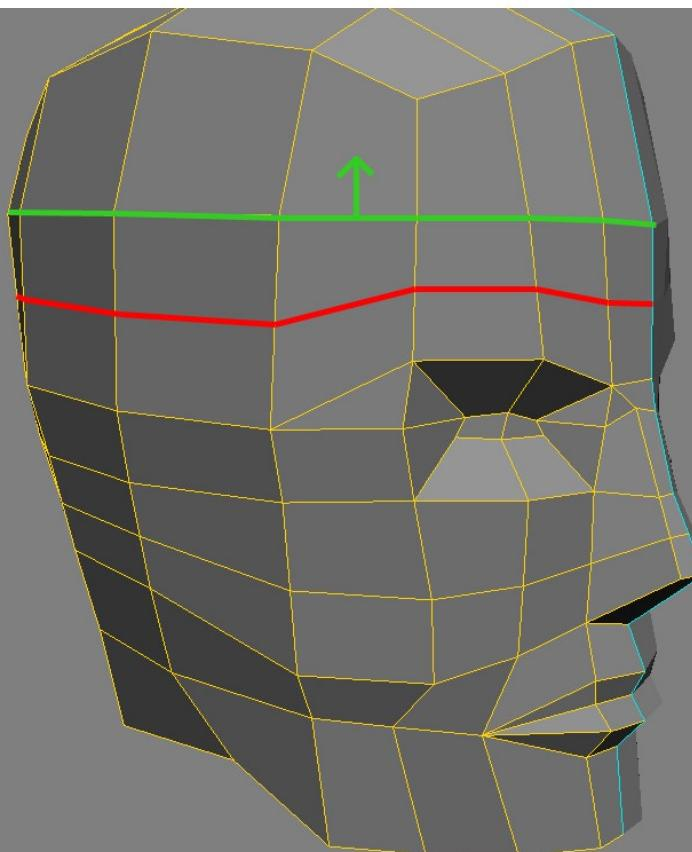

Fig 11
11. Let's add some more detail to the head. select the edgeloop marked in green in Fig11 and move it upwaruds a bit. This is to make room for a new cut that we need to add all around the head (marked in red in Fig11). Select the edge ring and Subdivide it.